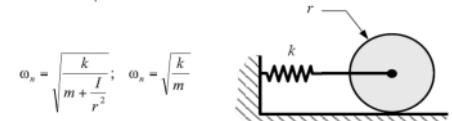

Figure Q7
7. A wheel (radius r , mass m , moment of inertia about its centre I) can roll without slipping on a horizontal plane. It is restrained by a horizontal spring (stiffness k) attached at one end to the centre of the wheel and at the other end to a rigid vertical wall, as in Figure Q7. Derive the equation of motion and hence find the natural frequency for the system.